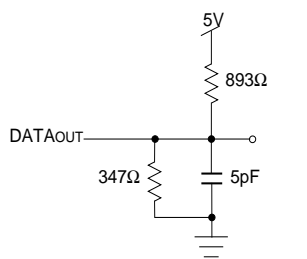

Figure 2. Output Test Load (For tCLZ, tCHZ, tOLZ, and tOHZ). Including scope and jig.
1. Transition is measured +/-200mV from Low or High-impedance voltage with the Output Test Load (Figure 2).
3. Transition is measured +/-200mV from Low or High-impedance voltage with the Output Test Load (Figure 2).